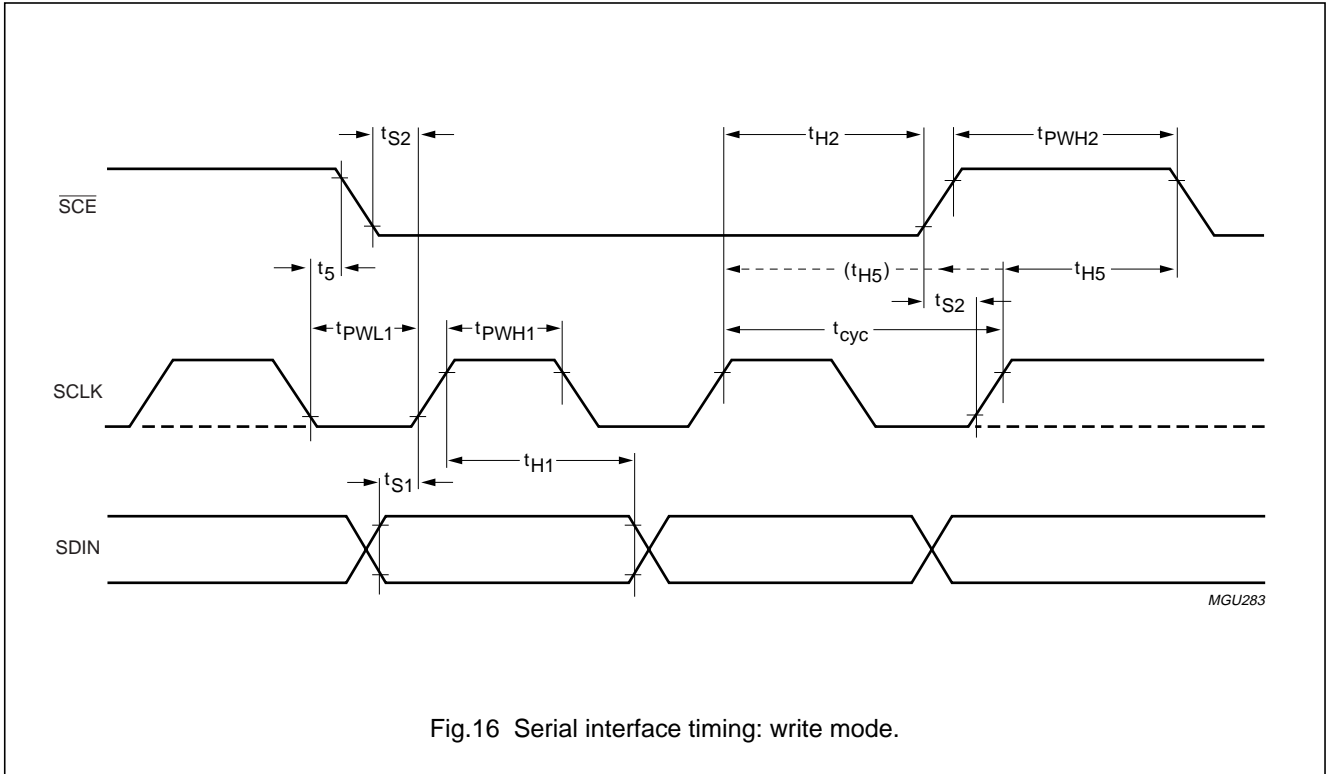

Fig.16 Serial interface timing: write mode.
- t_{H5} is the time from the previous SCLK rising edge (irrespective of the state of \overline{SCE}) to the falling edge of \overline{SCE} (see Fig.16).